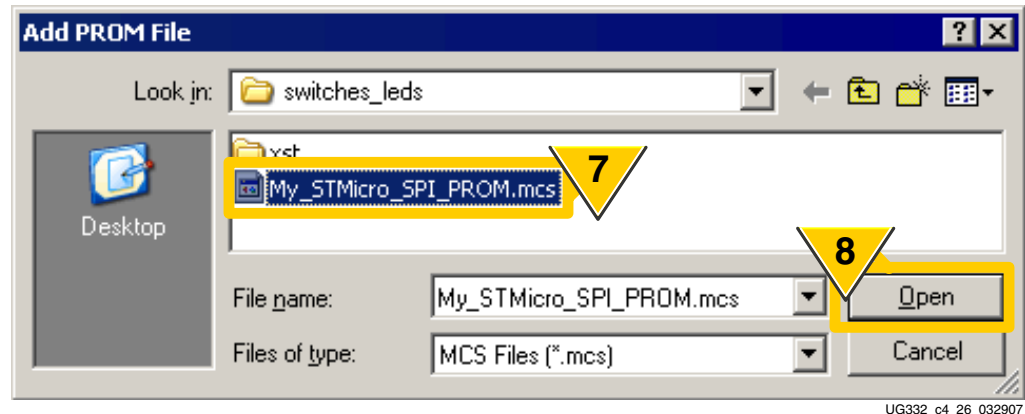

Figure 12-14: Select the SPI PROM Programming File
- As shown in Figure 12-14, select the programming file for the attached SPI Flash PROM.